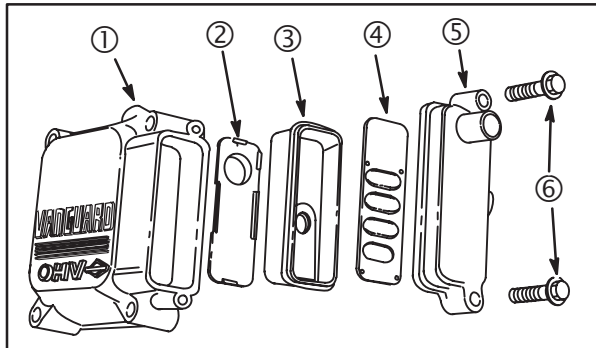

Fig. 15
1. Remove two screws (6) and breather cover (5), **Fig. 15.**
2. Lift off the outer baffle (4).
3. Remove the reed valve assembly (3) and O-ring.
4. Remove the inner baffle (2) from the valve cover (1).